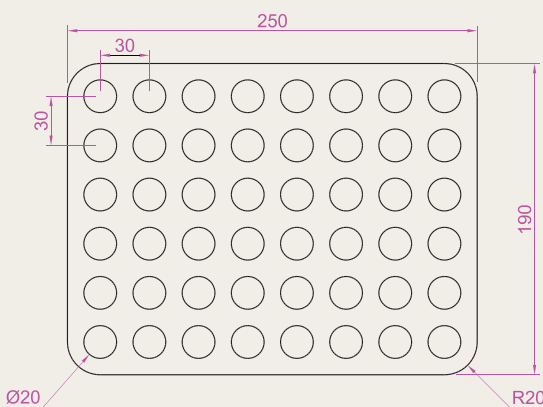

Fig. 5.47 Exercise 2
2. Construct the drawing given in Fig. 5.47. All parts of the drawing are plines of width = 0.7. The setting in the **Array** dialog is to be **180** in the **Angle of array** field.